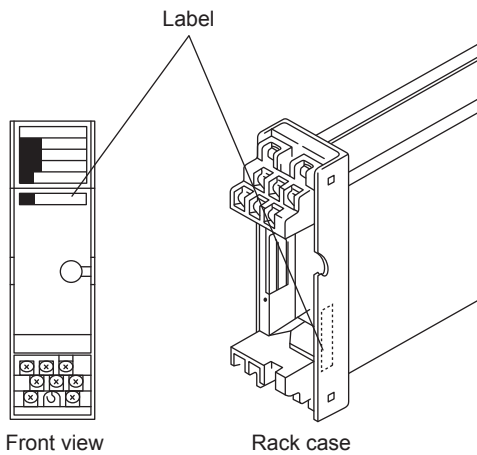

Figure 2.7 **Location of Labels**
- (3) Connect the wiring that has been pulled through the ducts to the appropriate terminals. See Section “2.6 External Wiring”, concerning connections to individual terminals.
- (4) Plug the internal unit into the case, being careful to make sure that you are inserting it in the proper location. There are labels on the internal unit and the case. If tag numbers have been assigned to the labels, compare them and make sure that they match before inserting the internal unit (see Figure 2.7). If using contact signal outputs, or terminal-connected power wiring, connect the relevant wires to the appropriate terminals.